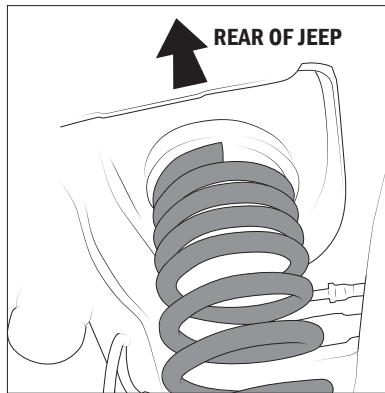

Figure 7
13. Install AEV springs making sure to properly index them on the axle spring seat (Fig. 7).